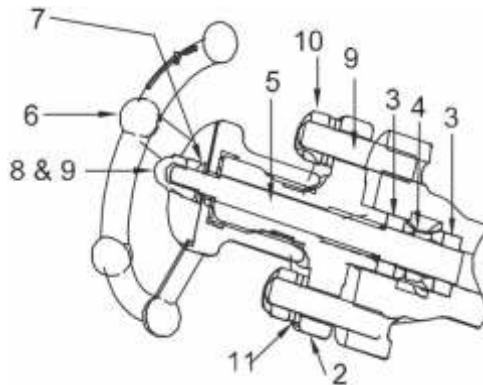

Figure 4: Section view of isolation valve
7.4. Procedure to service: [Refer figure 4]
7.6. Dismantling the Isolation valve: [Refer figure 4]
7.7. Repacking the isolation valve: [Refer figure 4 and 5]
7.8. Reassembling the isolation valve: [Refer figure 4 & 5]